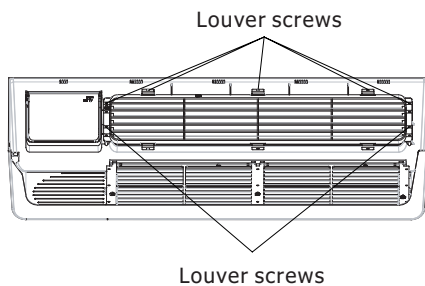

Fig. 14 – Backside of Front Panel
2. Remove louver screws that hold louver insert in place (from back side of front panel). See Fig. 14.